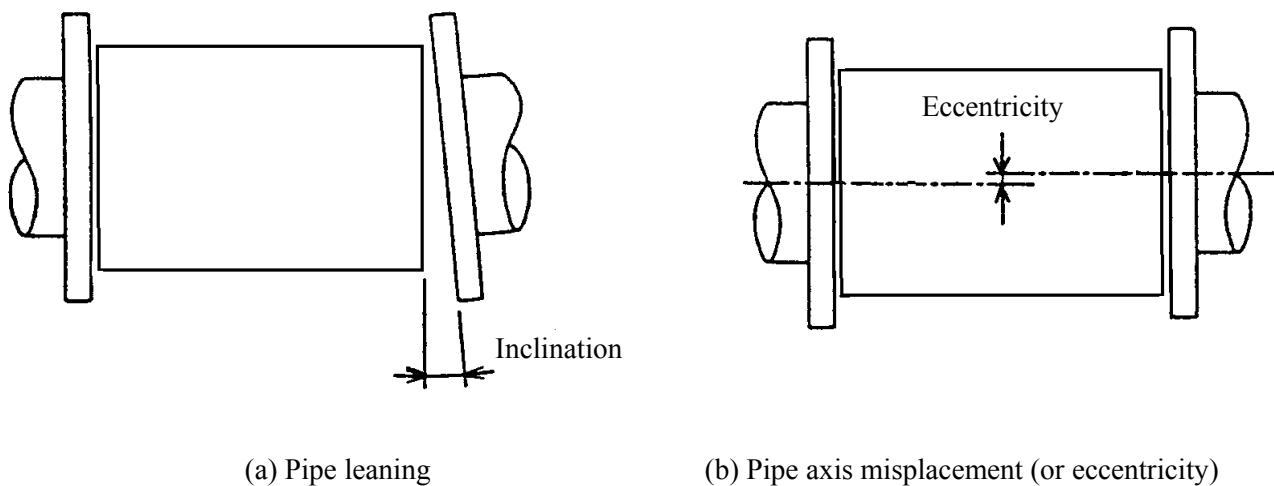

Figure 4.1 Pipe leaning and axis misplacement
(1) Before installing pipes, check for any leaning or misplacement (or eccentricity) as illustrated in Figure 4.1. An attempt to unreasonably connecting pipes that are inclined may lead to a detector breakdown or fluid leakage. Connecting pipes in an eccentric state may also cause local wears and tears of linings and grounding rings, as well as measurement errors. Before installing pipes, make sure to flash the interior of the pipes to remove deposited matters.